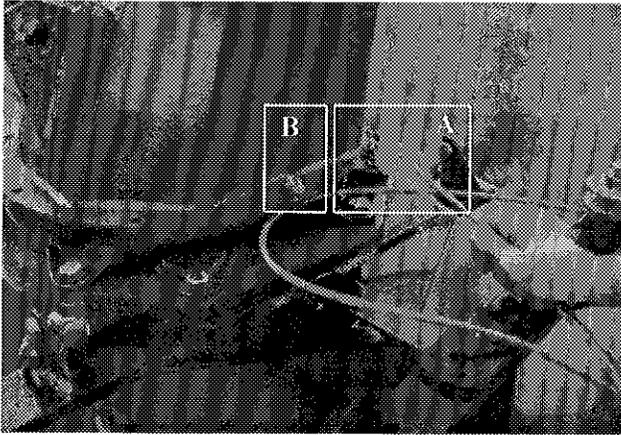

Figure 23
- 2) Place steel cable with both ends equal (A Fig. 23) and secure solidly with wire clamp (B Fig. 23).